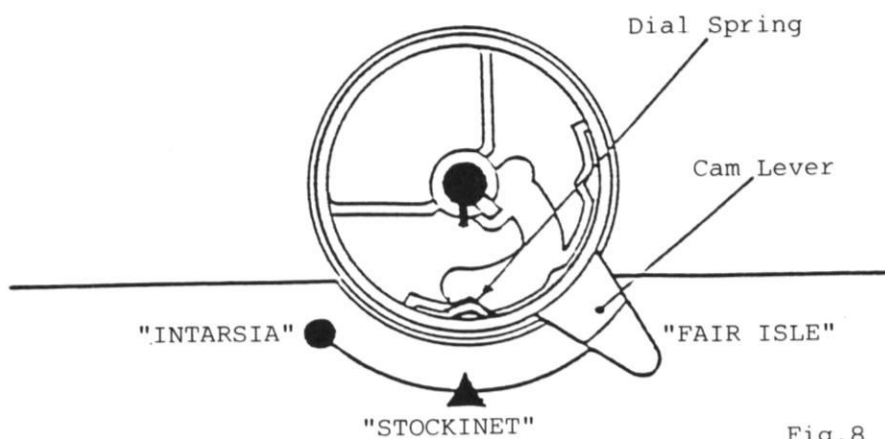

Fig.8
5. Set the Cam Lever to "FAIR ISLE". While pushing out the Dial Spring with the tip of a Screwdriver, pull out the Cam Lever together with the Carriage Cover as shown in Fig.8.